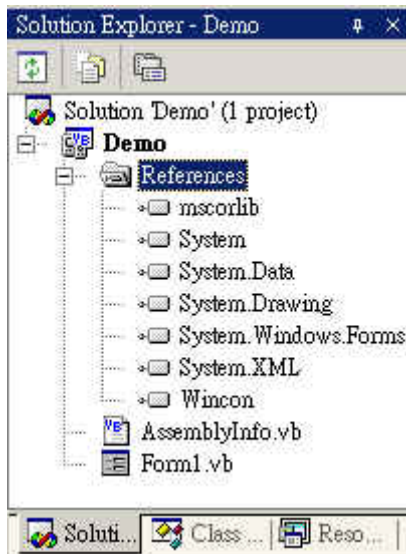
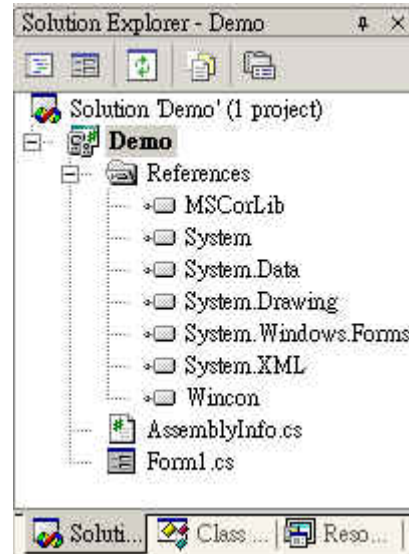

Fig. 5-2-7a
Fig 5-2-7b
5. You have completed adding the “**mscorlib**” and “**Wincon.dll**” references for your application; now expand the “**Demo**” and “**References**” folders in the “**Solution Explorer**” tab to make sure the “**Wincon.dll**” has been added into the project references. (see Figure 5-2-7a of VB.NET, or Figure 5-2-7b of